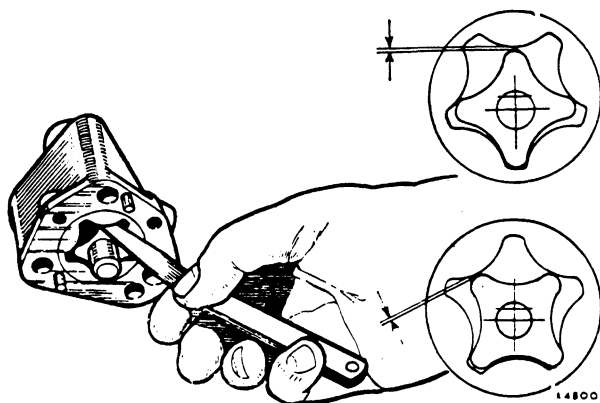

Fig. A.4
- (1) Install the rotors in the pump body, place a straight-edge across the joint face of the pump body, and measure the clearance between the top face of the rotors and the under side of the straight-edge. The clearance should not exceed .005 in. (.127 mm.). In cases where the clearance is excessive this may be remedied by removing the two cover locating dowels and carefully lapping the joint face of the pump body.
- (2) Check the diametrical clearance between the outer rotor and the rotor pocket in the pump body. If this exceeds .010 in. (.254 mm.) and cannot be remedied by the renewal of either the pump body or the rotors, then the pump assembly should be renewed.
- (3) With the rotors installed in the pump body measure the clearance between the rotor lobes when they are in the positions shown in Fig. A.4. If the clearance is in excess of .006 in. (.152 mm.) the rotors must be renewed.